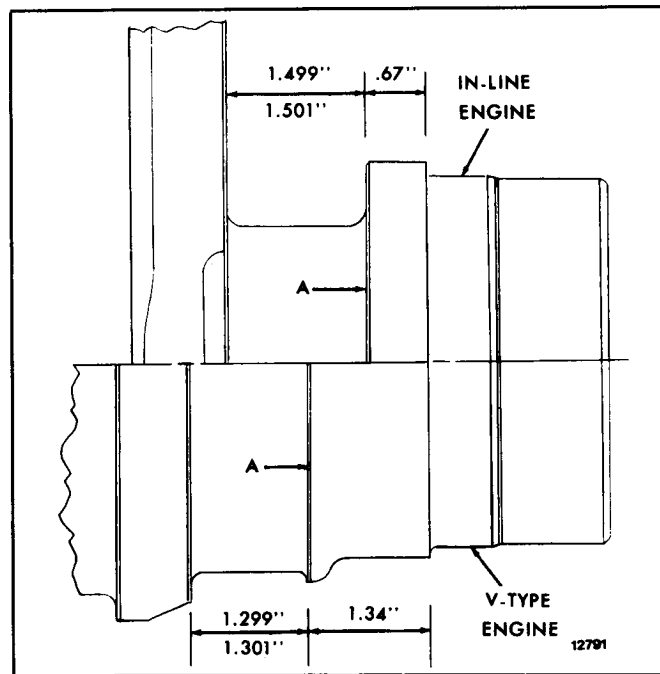

Fig. 7 - Standard Dimensions at Crankshaft Thrust Surfaces - In-Line and V-Type Engines
Also, measure the crankshaft thrust surfaces (Fig. 7).
- If the thrust surfaces of the crankshaft (Fig. 7) are worn or grooved excessively, they must be reground and polished. Care must be taken to leave a .130" to .160" radius on the In-line crankshaft and .100" to .130" radius on the 6V and 8V engines between each thrust surface and the bearing journal.